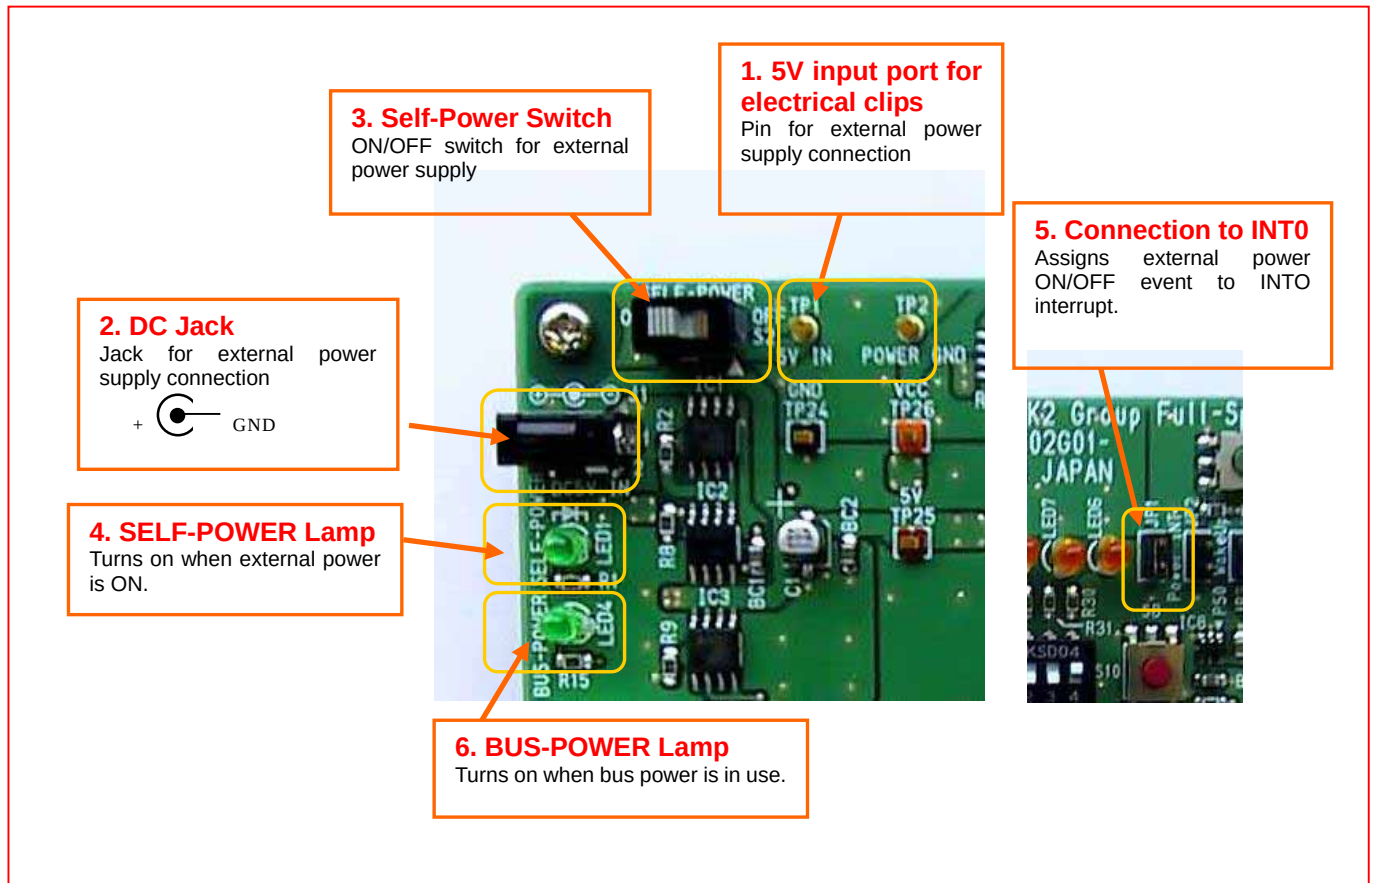

Figure 1.5 Power Supply Areas
To run M3A-8K02 on self-power, connect the external supply through TP1 (1) or the DC jack (2), as shown in Figure 1.5. The polarity of the DC jack is “GND” internally and “+” externally. +  GND